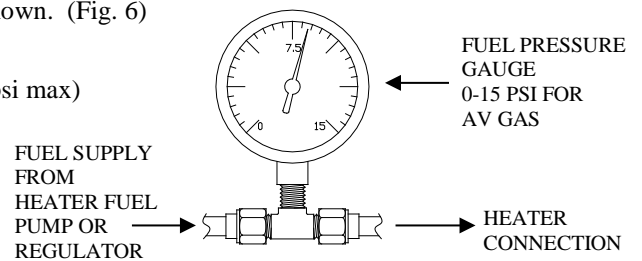

Figure 6
4.1.5 Install the fuel pressure gauge (0-15). Tee into as shown. (Fig. 6)